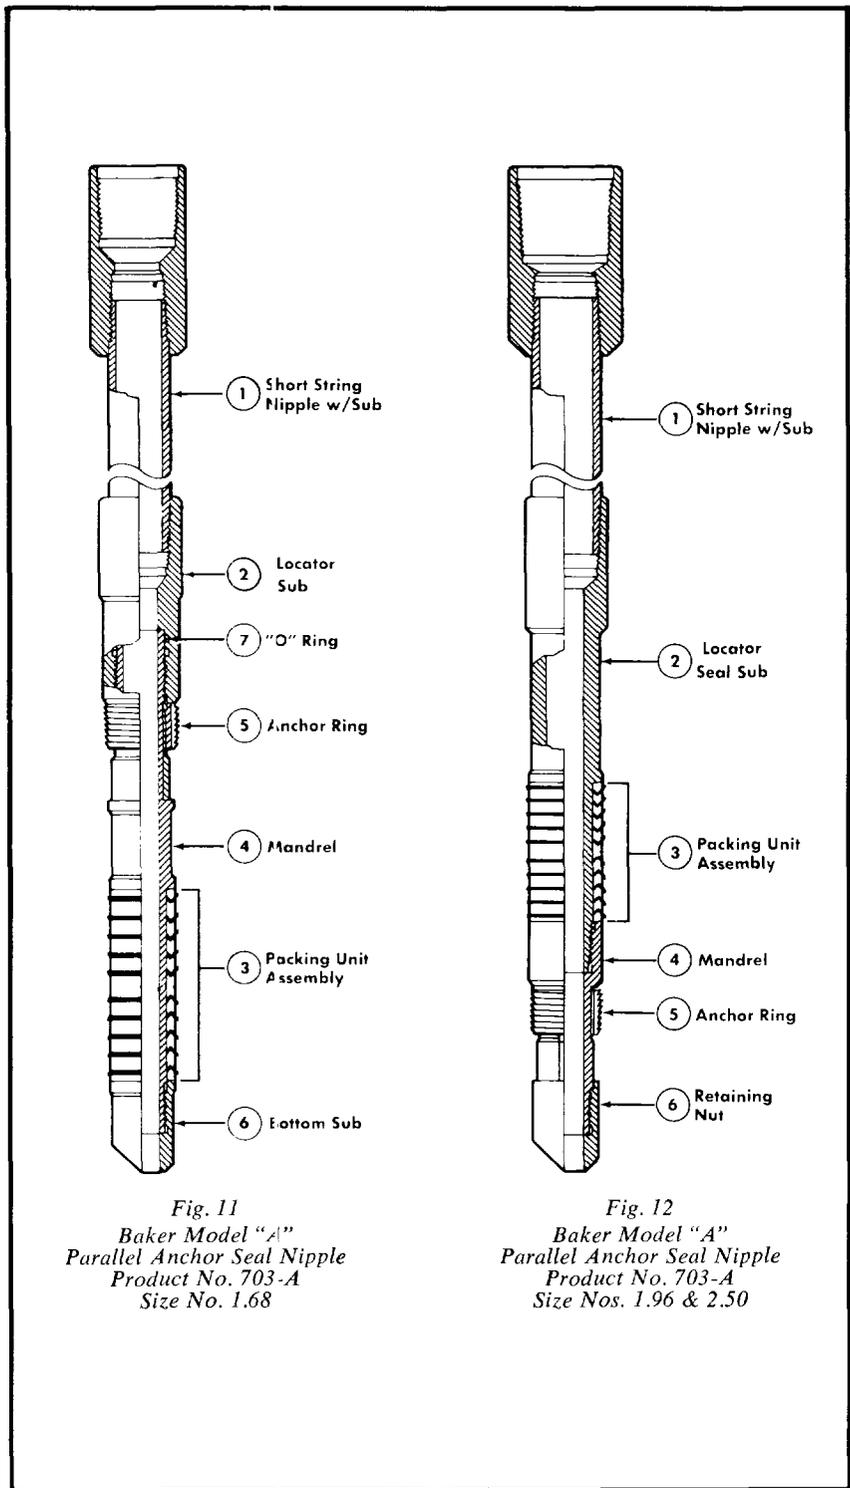

Fig. 11
6. Baker Model "A" Parallel Anchor Seal Nipple, Product No. 703-A. (Refer to Figs. 11 and 12.) This product is similar to Product 702-A described above except that it contains an Anchor Ring for latching into the Left-Hand Threads located in the Sealing Bore of the Flow Tube Head. Its use makes it possible to anchor the short string if desired.